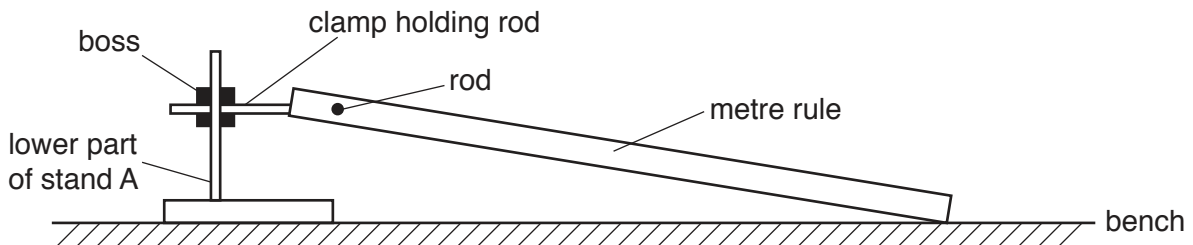

Fig. 4.1
- This stand should be labelled A. The Supervisor should assemble the apparatus as shown in Fig. 4.1.
8. At the changeover, the Supervisor should dismantle any apparatus left set up by the candidate and ensure that the apparatus is still set up as in Fig. 4.1.